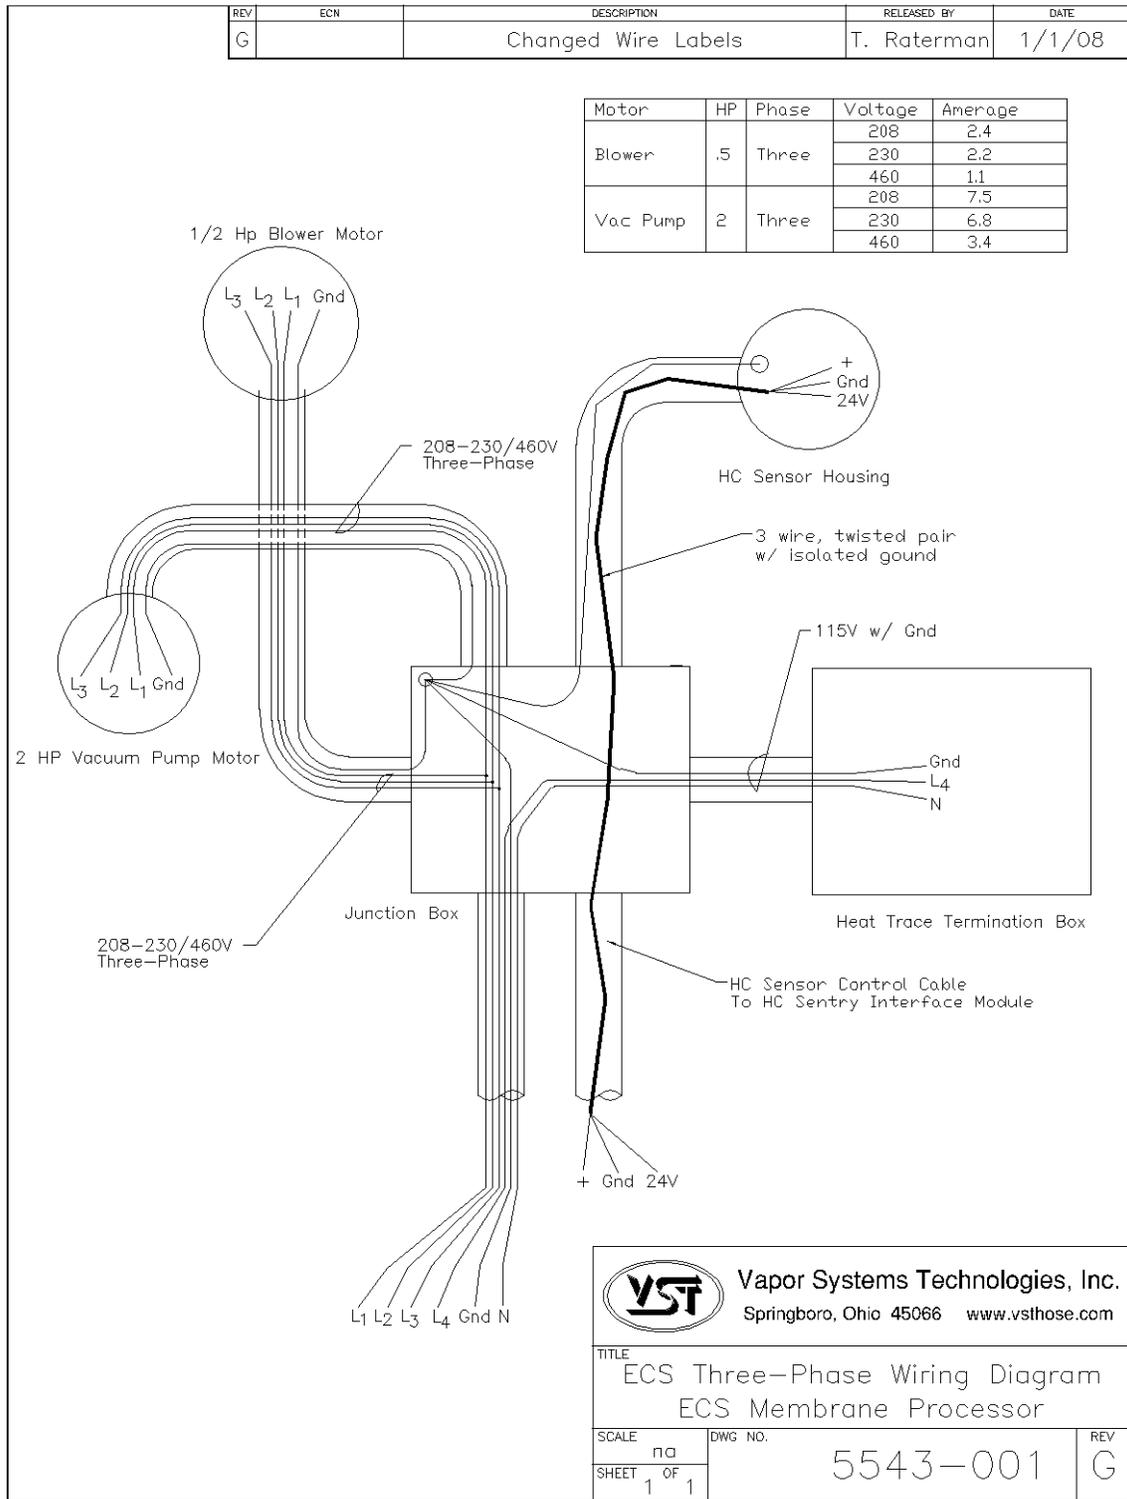

Figure 22: Processor Three-Phase Wiring Schematic
- ▶ **See Figure 22: Section 14 / Page 64.**